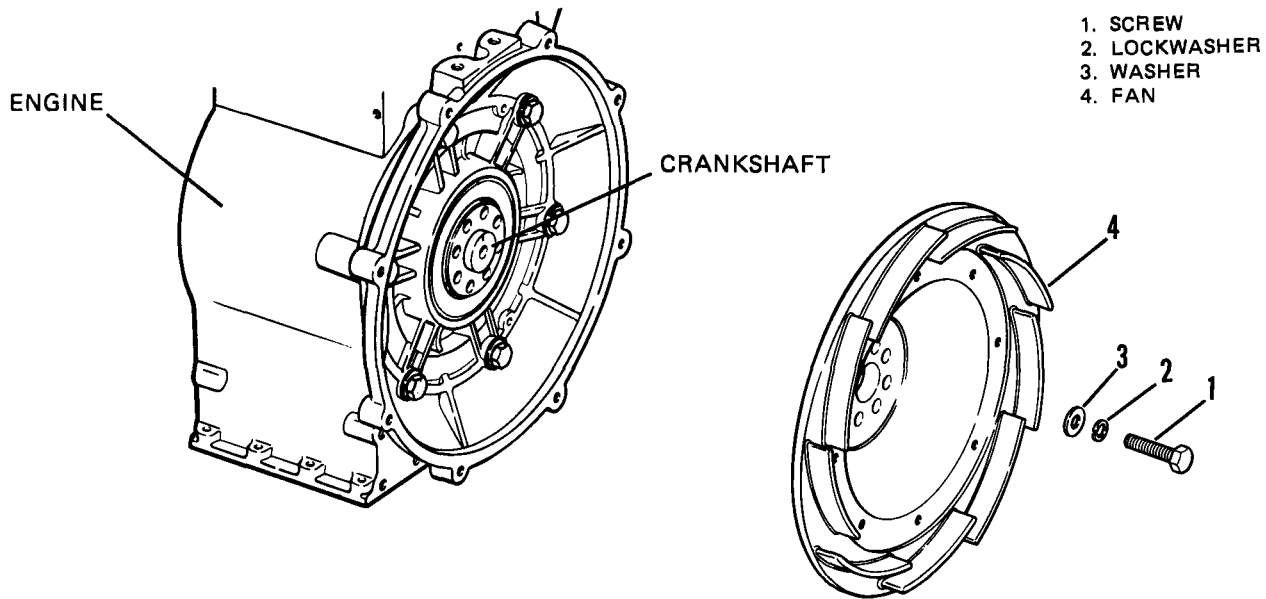

Figure 5-4. Generator Fan.
- (1) Remove generator, refer to paragraph 2-10.
- (2) Remove screws (1, Figure 5-4), lockwashers (2) and washer (3).
- (3) Remove fan (4) from engine crankshaft.